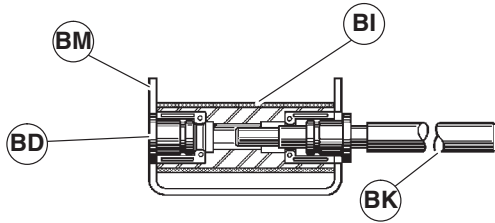

**Figure 41**
- Remove the sleeve arbor tool (Figure 41, item BK) and insert it into opposite side through retaining sleeve (BD).